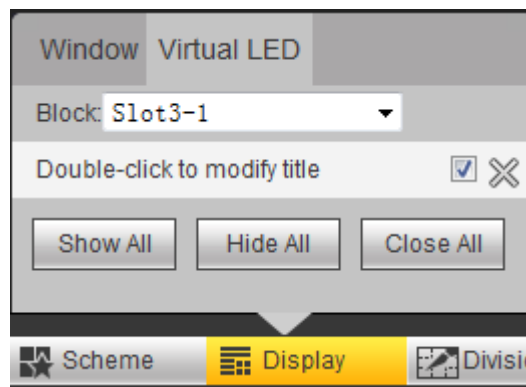

Figure 3-33
Step 5 Select “Virtual LED” tab of “Display”. The system displays Figure 3-33